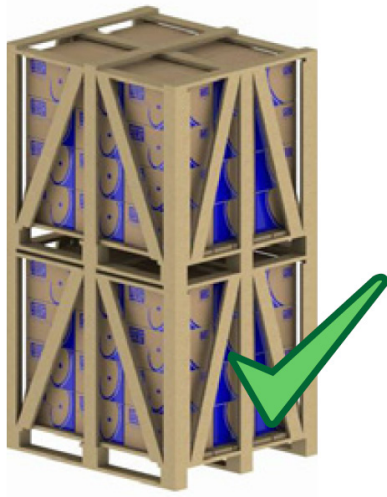
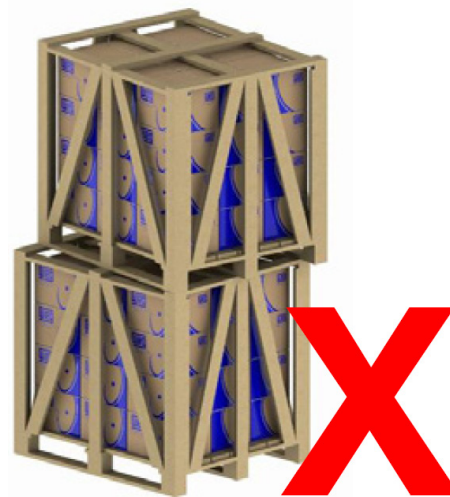

Figure 5.1: Correct stacking
Figure 5.2: Incorrect stacking
(1) Never stack larger packaging onto smaller packaging.
(2) Align the packaging correctly (see Figure 5.1 on page 30 and Figure 5.2 on page 30).